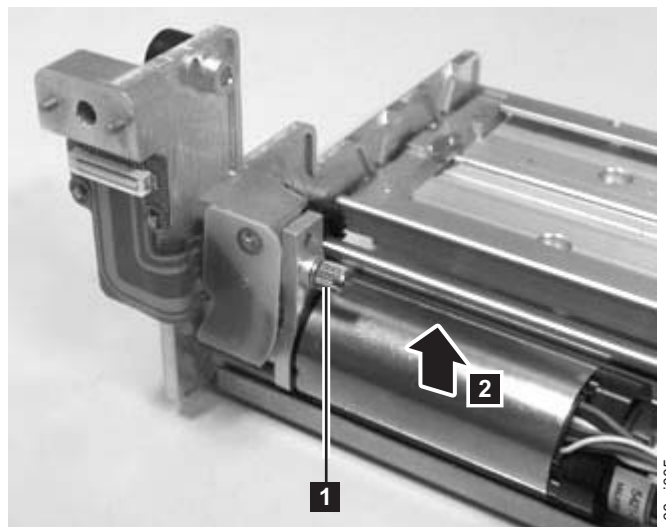

Figure 8-59. Y motor thumb screw
6. Loosen the thumb screw (1 in Figure 8-59), slide the motor to the left, then lift the motor out of the Y-axis Assembly (2 in Figure 8-59).